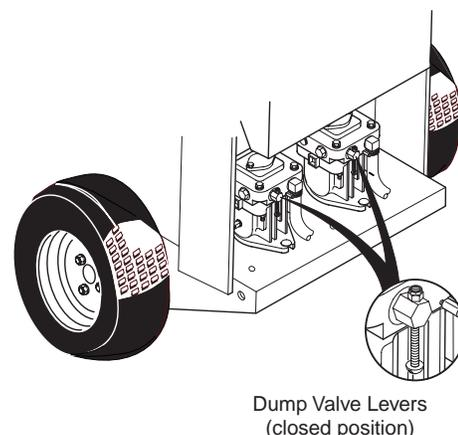

Figure 1. Dump Valves
11. To "freewheel" or move the machine around without the engine running, turn the dump valve levers located at the back of the pumps counter clockwise to the "freewheel" positions. To operate the machine, the dump valve levers must be turned clockwise to the closed positions. (See Figure 1).